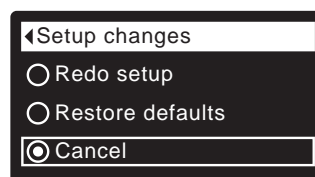

FIG. 93
7. Press the SELECT (O) button to display the Setup changes menu (See Figure 93).
8. If the desired option already has a dot next to it (See Figure 93), go to Step 9. Otherwise, press the DOWN (▼) or UP (▲) buttons to scroll to the desired option, then press SELECT (O) to choose it.